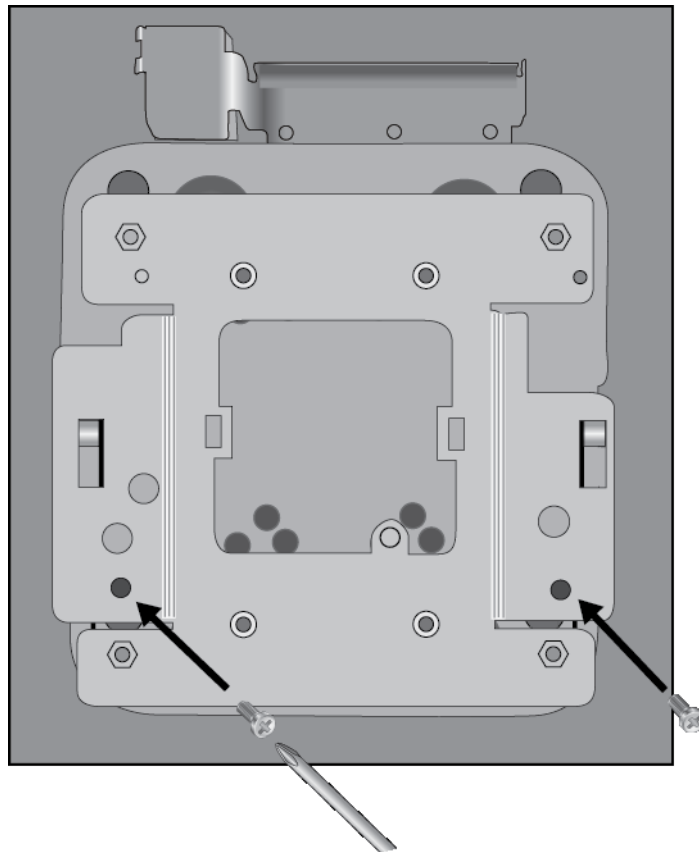

Figure 8. Securing the Base Plate to the Cisco Bracket
2. Secure the base plate to the Cisco bracket with the two M3x8 screws included with the product, using a Phillips-head screwdriver. Refer to Figure 8.